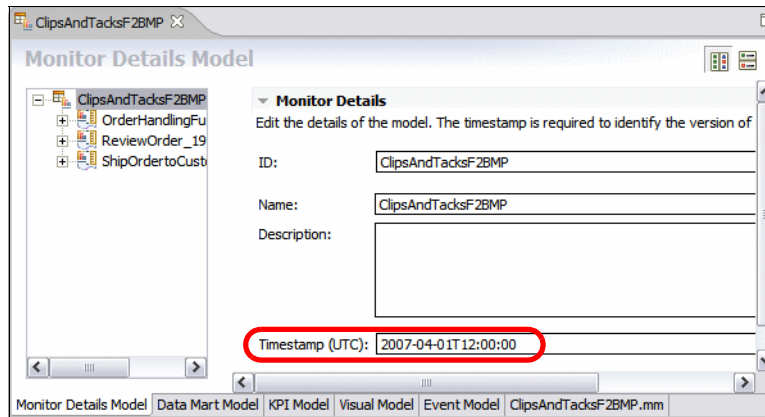

Figure 17-24 Monitor model timestamp
- ▶ Change the timestamp of the model (Figure 17-24). The timestamp must be newer than the previous model.